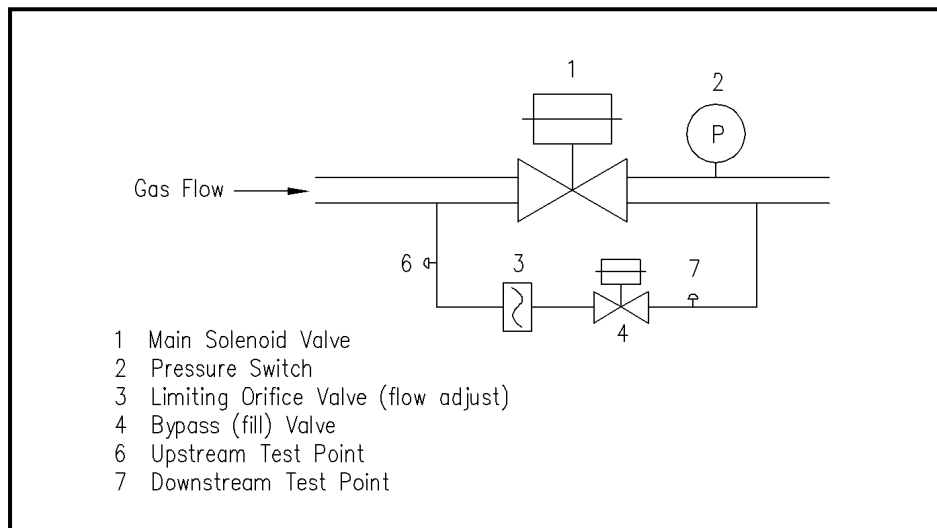

Figure 1 – Gas Train Components
1. DO NOT turn on any power. Leave keyed power *Isolator Switch (5)* in OFF position.
7. Using a manometer, check the upstream inlet gas pressure (refer Fig. 1 position 6), to confirm it is as per the designed operating pressure rating. Record the result.
8. Check the setting of the *Pressure Switch*, (refer Fig. 1 position 2), and adjust the setting to 50% of the inlet pressure.
10. Using a manometer, check the downstream gas pressure (refer Fig. 1 position 7). This reading MUST BE zero. If it is more than zero, bleed off the gas remaining in the downstream pipework (see safety alert regarding ventilation above).
11. Leave the manometer connected to the *Downstream Test Point* (refer Fig. 1 position 7).
12. Check that the *Limiting Orifice Valve* (LOV) is fully closed (refer Fig. 1 position 3).
13. Turn keyed power *Isolator Switch (5)* to ON position
14. The *Power On (1)* and *System Fault (3)* indicators should now both be illuminated.
16. Hold the *Reset Button (3)* and SLOWLY open the LOV (refer Fig. 1 position 3) to the minimum flow setting. This minimum flow setting MUST BE LESS than the smallest appliance flow connected. This is necessary to ensure the system cannot be restored when an outlet has been left open. Observe the manometer reading and ensure that the pressure is less than the pressure switch setpoint. If the pressure rises, close the LOV slightly. If the pressure rises ABOVE the pressure switch setpoint, shut down the Accutest system. Bleed the gas downstream, restart the system, then follow the procedure again from Step 10.
18. Press and hold the *Reset Button (3)* until the *System Running (2)* indicator is illuminated - this signals that the piping is gas tight. The Main Solenoid Valve (refer Fig. 1 position 1) will be energized and the *System Fault (3)* indicator will switch off.
20. Release the *Reset Button (3)*.
2. When each interlock is tripped the Main Solenoid Valve (refer Fig. 1 position 1) should shut off and the ACCU-TEST *Power On (1)* lamp should be the ONLY lamp illuminated.
- To prove that the LOV (refer Fig. 1 position 3) has been set to below the lowest gas flow outlet connected to the system.
1. Turn off the keyed power *Isolator Switch (5)* and shut the ACCU-TEST system down.
4. Fit a manometer to the Downstream Test Point (refer Fig. 1 position 7).
5. Turn on the keyed power *Isolator Switch (5)* and attempt to charge the downstream gas piping by pressing the *Reset Button (3)*.
7. If the LOV (refer Fig. 1 position 3) has been set correctly the gas piping will not be able to be pressurised.
10. If the LOV (refer Fig. 1 position 3) is set correctly the manometer pressure reading should not rise above the Pressure Switch setting (refer Fig. 1 position 2) and the Pressure Switch will not activate (refer Fig. 1 position 2).
11. If the manometer reading continues to increase, the Pressure Switch will activate (refer Fig. 1 position 2). If this occurs, immediately shut the system down.
13. If the gas pressure does not increase past the switch set point, the main gas valve will remain closed. Shut the system down by turning off the keyed power *Isolator Switch (5)*.
16. Reset (3) the system